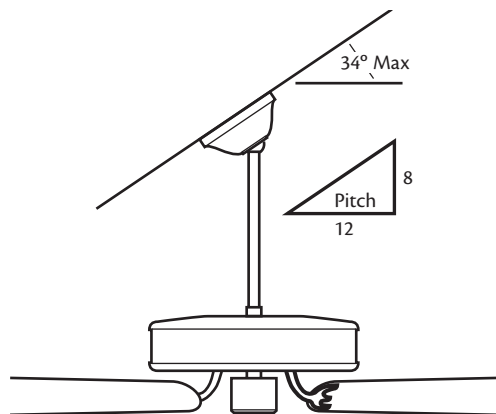

Figure 3 - Angle mounting
**Angle Mounting** (Figure 3) hangs from a vaulted or angled ceiling.